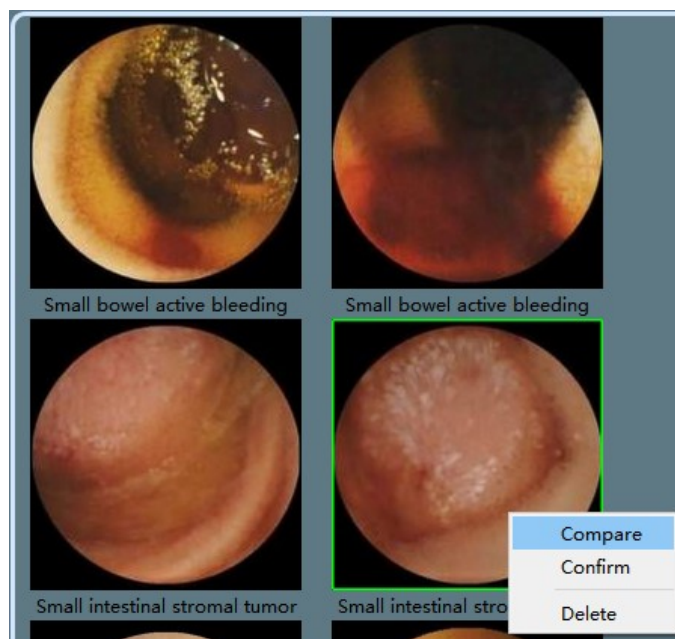

Figure 4-66: Comparison Between Exam Image and AtlasImage
- On the atlas image to be compared, right click and select “Compare” in the pop-up menu to open the image comparison interface and compare the selected exam image with the atlas image, as shown in Figures 4-66 and 4-67. The image scaling factor can be changed by dragging the slider or scrolling the mouse.